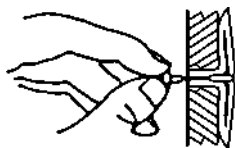

Figure 9 - Popping Open Anchor Wing For Thin Walls
4. For thin walls (1/2" or less), insert red key into wall anchor. Push red key to "pop" open anchor wings (see Figure 9).